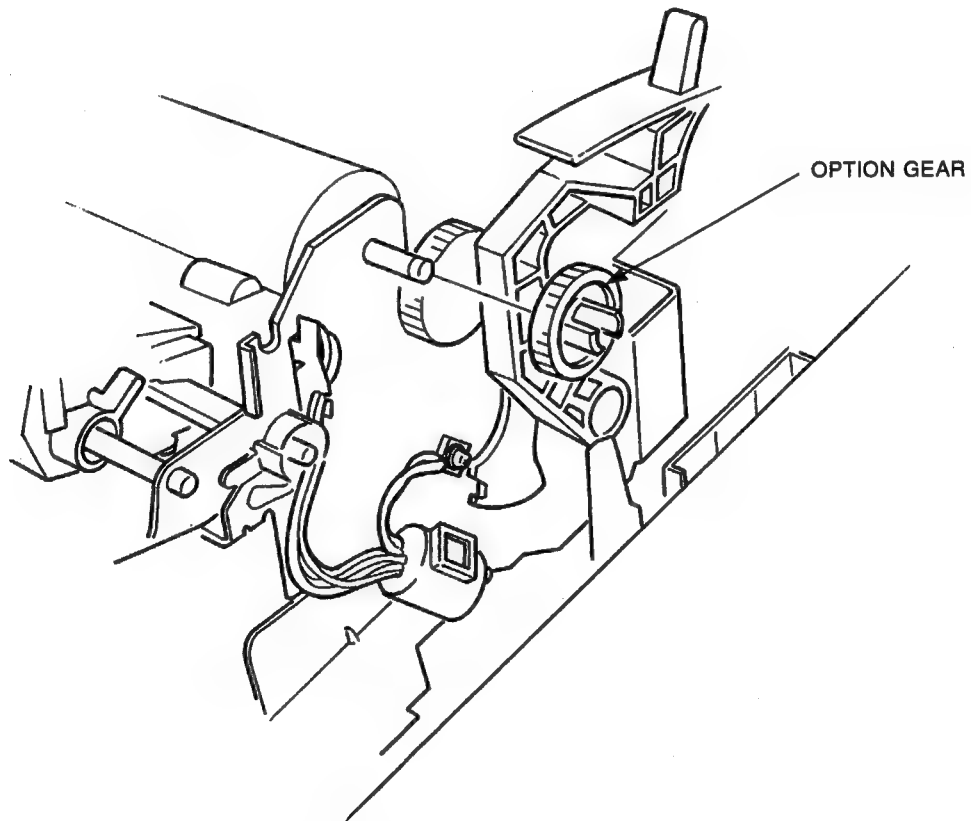

Figure 3-33 Option Gear
1. Unlock two locking tabs of the option gear to remove the option gear (see Figure 3-33).